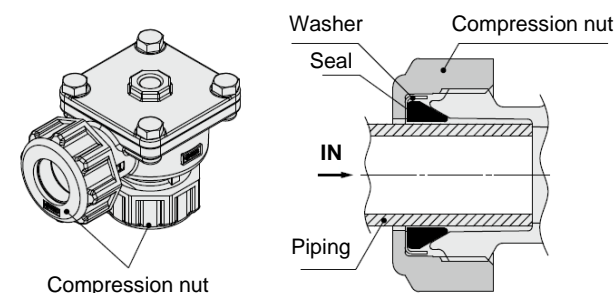

Fig.1
- Insert the piping into the valve body until it stops to prevent misalignment of the piping in relation to the valve body, see fig.1.